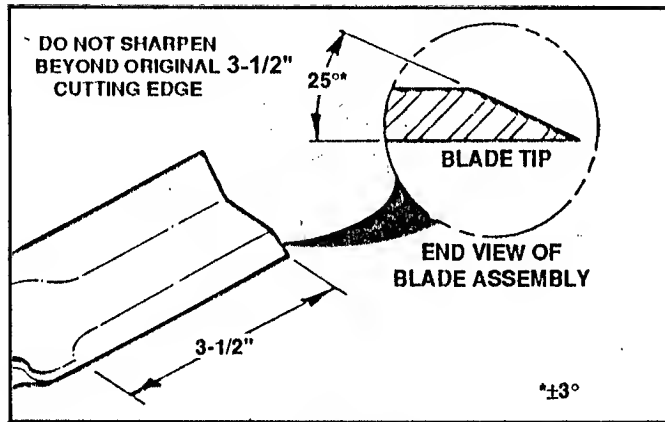

FIGURE 3.8
4. Sharpen blade on a grinding wheel at an angle of 22 to 28 degrees. The cutting surface should extend inward about 3 1/2" from the tip. See Figure 3.8.